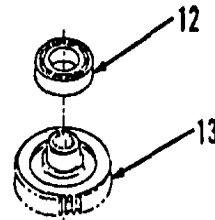

Figure 3-188.
8. Using suitable driver and press, install bearing (12), if removed on gear (13, Figure 3-188).